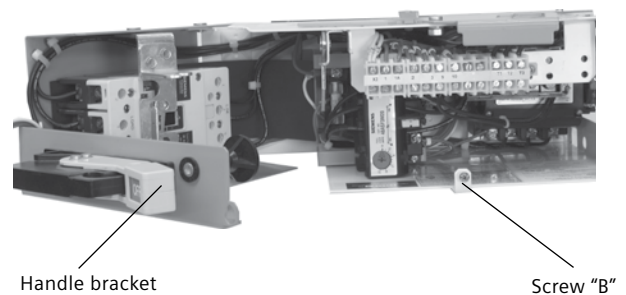

Figure 59
2. Loosen screw "B" shown in Figure 59.
4. Rotate the left side of the unit open as shown in Figure 59.